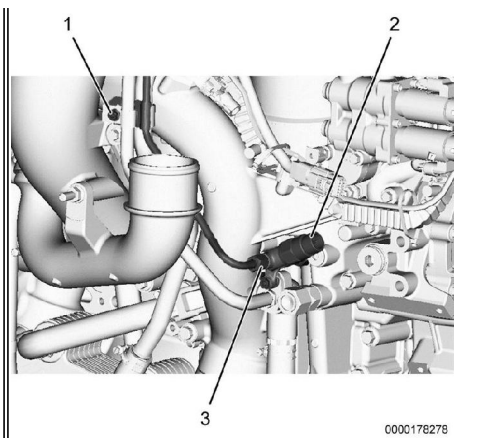

Figure 14: Turbo Oil Supply Tube T-fitting Flare Nut.
28. Install M8 nut (Figure 14, Item 1) over turbo supply line bracket, heater and cooler line brackets and stud bolt in high-pressure turbocharger air inlet duct.
29. Install turbo oil supply tube flare nut (Figure 14, Item 3) to T-fitting. Using torque wrench, tighten nut to 19 lb-ft (26 N•m).
30. Install EOP sensor (Figure 14, Item 2) to T-fitting. Using torque wrench, tighten sensor to 33 lb-ft (45 N•m).